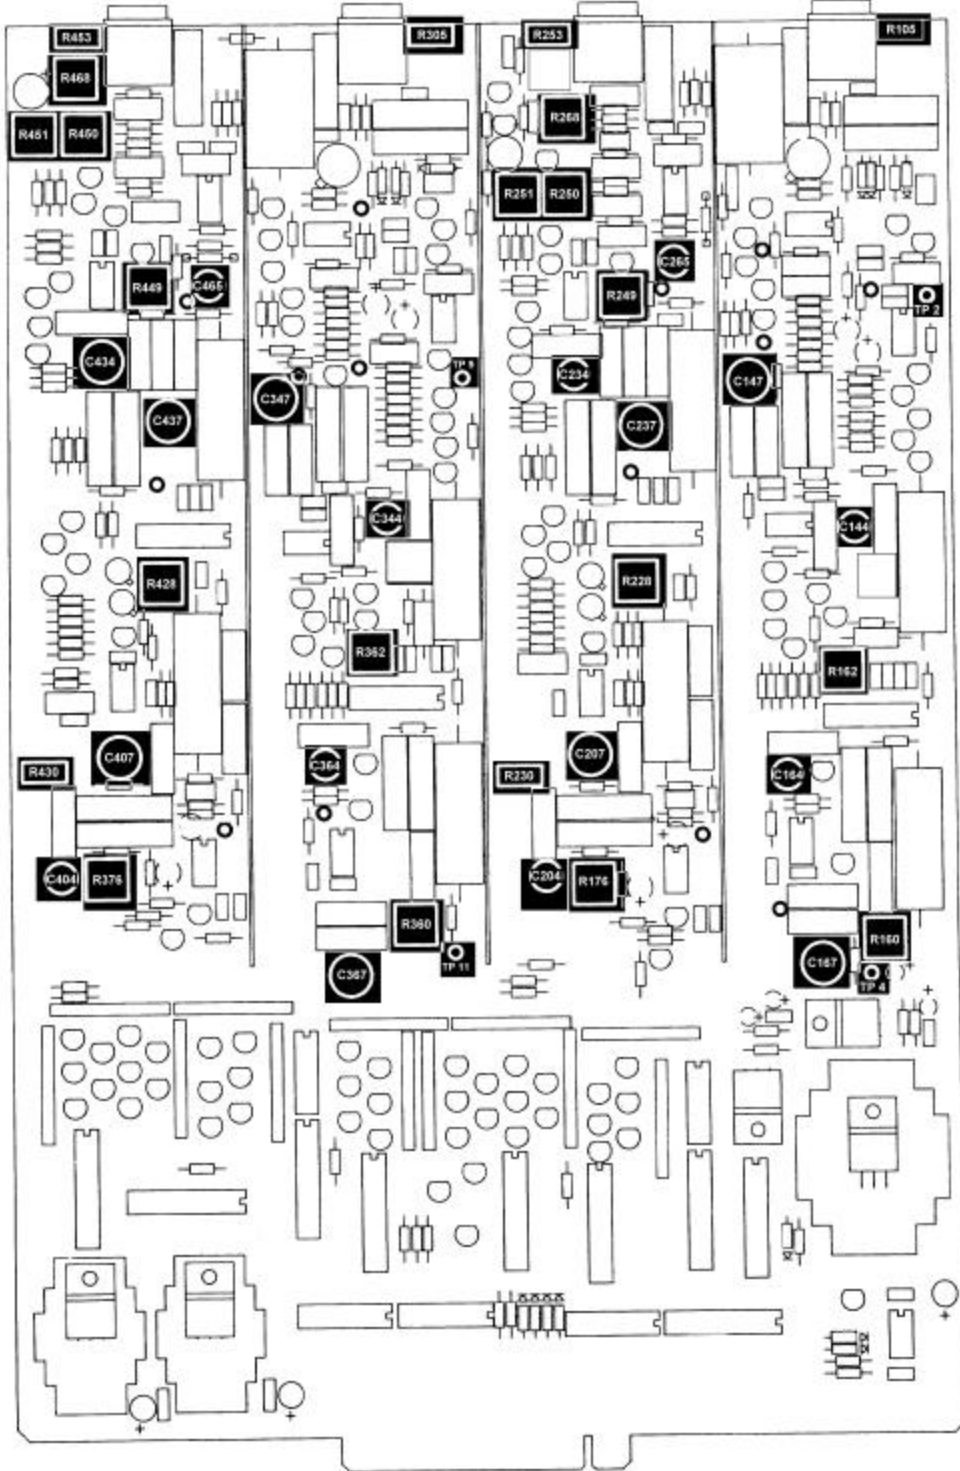

Figure 2. Motherboard.
- k.** Adjust DC ADJ R253 (fig. 2), located to the right of rear panel **CH 1 OUTPUT BNC** connector for digital multimeter indication of 0 V dc ± 1 mVdc.
- m.** Adjust R268 (fig. 2) until multimeter indicates between 0 V dc ± 1 mVdc.
- p.** Press corresponding keys as listed in (1) through (3) below and verify **CUTOFF FREQUENCY** indicates **2.000**.
- (1) **2** data entry key.
- (2) **KILO** parameter key.
- (3) **FREQ** parameter key.
- v.** Adjust DC ADJ R105 (fig. 2), located to the left of rear panel **CH 1 INPUT BNC** connector for digital multimeter indication of 0 V dc ± 1 mVdc.
- aa.** Adjust R176 (fig. 2) for digital multimeter indication of 0 V dc ± 1 mVdc.
- f. Press corresponding keys as listed in (1) through (4) below and verify **CUTOFF FREQUENCY** indicates **25.00.**
- (2) **5** data entry key.
- (3) **KILO** parameter key.
- (4) **FREQ** parameter key.
- h. Connect true rms voltmeter to test point TP 4 (fig. 2) and chassis ground.
- j. Alternate calibrator and TI frequencies between 25.6 kHz and 175 kHz using technique of **f** above to enter TI frequency. Adjust C167 (fig. 2) for a -5.33 dB true rms voltmeter indication or split the difference between the two readings.
- k. Connect true rms voltmeter to TP 2 (fig. 2) and chassis ground.
- l. Alternate calibrator and TI frequencies between 25.6 kHz and 175 kHz using technique of **f** above to enter TI frequency. Adjust C147 (fig. 2) for a -5.33 dB true rms voltmeter indication or split the difference between the two readings.
n. Press corresponding keys as listed in (1) through (5) below and verify **CUTOFF FREQUENCY** indicates **2.100**.
- (2) **.** data entry key.
- (3) **1** data entry key.
- (4) **KILO** parameter key.
- (5) **FREQ** parameter key.
o. Alternate between TP 2 and TP 4. Adjust R162 (fig. 2) for a -5.33 dB true rms voltmeter indication or split the difference between the two test point readings.
p. Connect true rms voltmeter to test point TP 4 (fig. 2) and chassis ground.
q. Press corresponding keys as listed in (1) through (5) below and verify **CUTOFF FREQUENCY** indicates **256.0**.
- (3) **6** data entry key.
r. Adjust calibrator for a 256 kHz, 1 V output. If true rms voltmeter does not indicate -5.33 dB, adjust C164 (fig. 2) until true rms voltmeter indicates -5.33 dB.
t. Connect true rms voltmeter to test point TP 2 (fig. 2) and chassis ground. If true rms voltmeter does not indicate -5.33 dB, adjust C144 (fig. 2) until true rms voltmeter indicates -5.33 dB.
v. Connect true rms voltmeter to test point TP 4 (fig. 2) and chassis ground.
w. Alternate calibrator and TI frequencies between 25 kHz and 250 kHz using technique of **f** above to enter TI frequency. Adjust R160 (fig. 2) for a -5.33 dB true rms voltmeter indication or split the difference between the two readings.
d. Press corresponding keys as listed in (1) through (4) below and verify **CUTOFF FREQUENCY** indicates **25.00**.